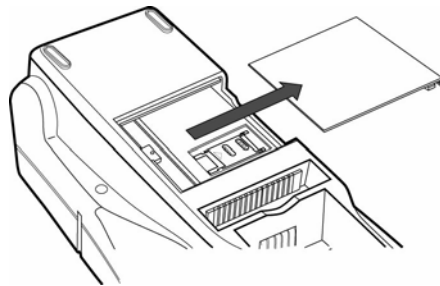

Figure 14 Slide Off SIM Card Access Door
- 2 Remove the SIM card access door (Figure 14):